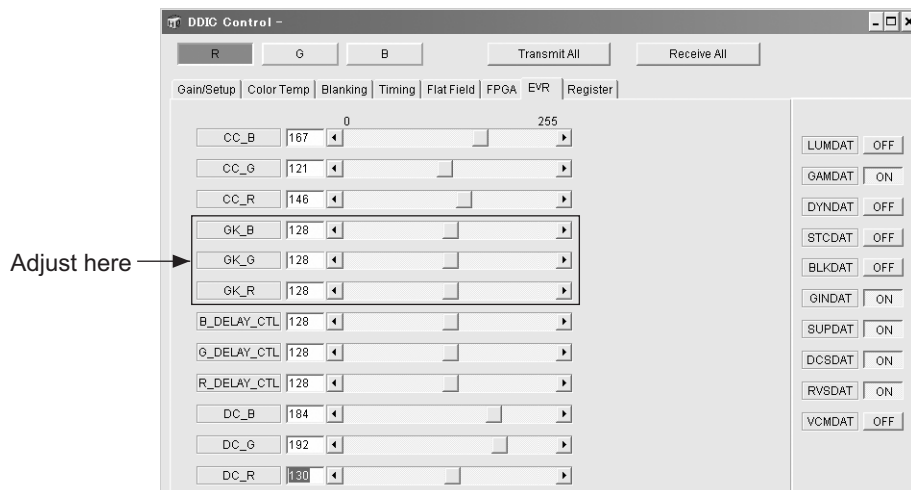

Fig.2
- (1) Move the slider of [GK_R], [GK_G] and [GK_B] with the [EVR] tab to allow the picture frame to be darkened most. Refer to Fig.2.